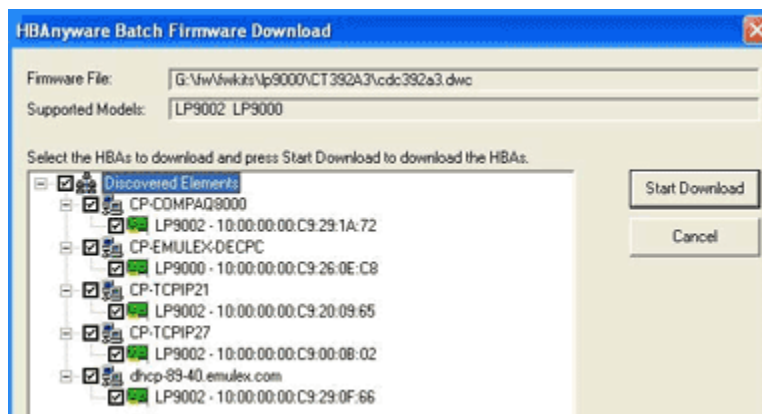

Figure 42: HBAAnyware Batch Firmware Download Window (Partial View), Selecting HBAs to Update
4. Click the box next to an HBA to select or remove that HBA from the batch process. Click the box next to a host to select or remove all eligible HBAs for that host from the batch process (Figure 42).